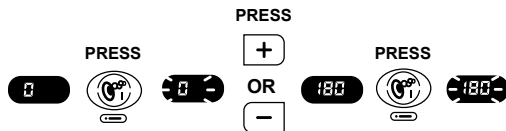

Figure 3
- B. Press the **Warmer** (+) button to scroll through the Primary Filtration cycles. After the last cycle, “PF8,” the LED screen will display the number of days remaining or zero, Figure 3.